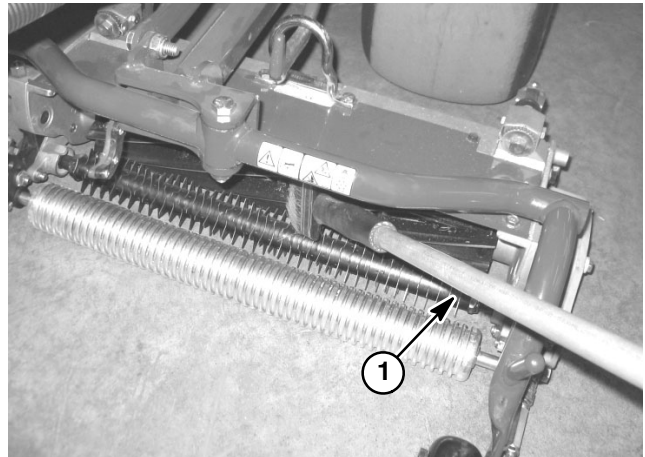

Figure 15
7. Apply lapping compound to cutting unit blades with a long handle brush (see Special Tools in this chapter) (Fig. 15). Never use a short handled brush to apply lapping compound.